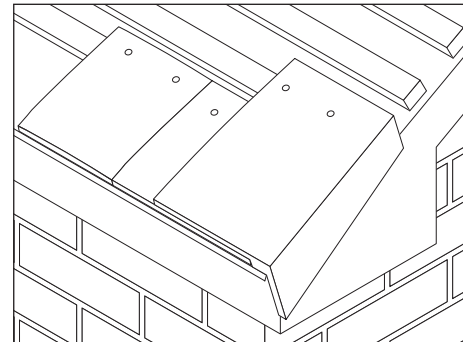

Fig. 8 – Eaves course
- 5 Fix the eaves cloak verge tile with 2 No. 38mm x 2.65mm aluminium nails (Fig. 8).